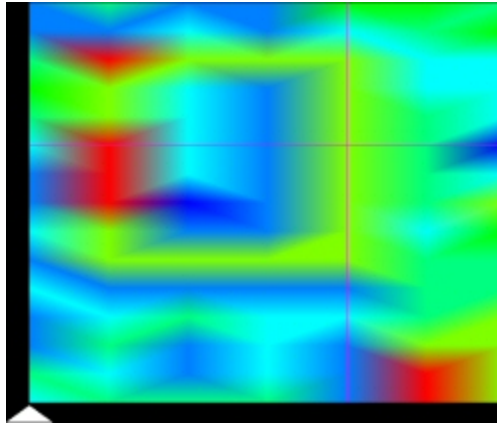

Figure 3.21
- Hold down the “Ctrl” key and push on the letter “V”, this is the paste command. The image should immediately change (Figure 3.21) after the signal has been changed. If more points need to be changed, then repeat the process until all scan points are changed.